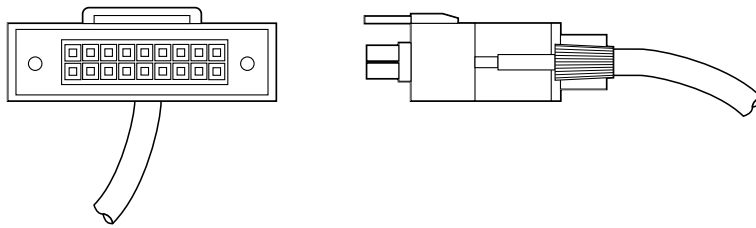

Figure 319: EPS-C2 2x9 Pin Redundant Power Cable with Connector Key Tab
- **One 2x9-pin connector**, shown in Figure 319, which connects the power supply to X250e-48p and X450e-48p switches.